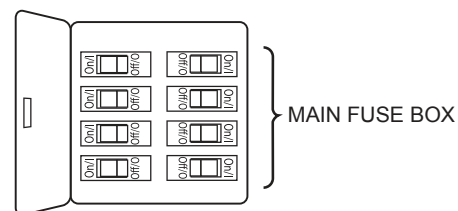

Figure 2
- Align the U-slot of the fan blade with the locating pin of the motor shaft. The pin should sink into the U-slot of the fan, then insert the hairpin into the side hole of the motor shaft and clamp it on the motor shaft. Finally, screw the fan nut cover into the Motor shaft and tighten it counterclockwise to fix the fan blade. (Figure 2)
2. Restore electrical power to the outlet box by turning the electricity on at the main fuse box. (Figure 2)